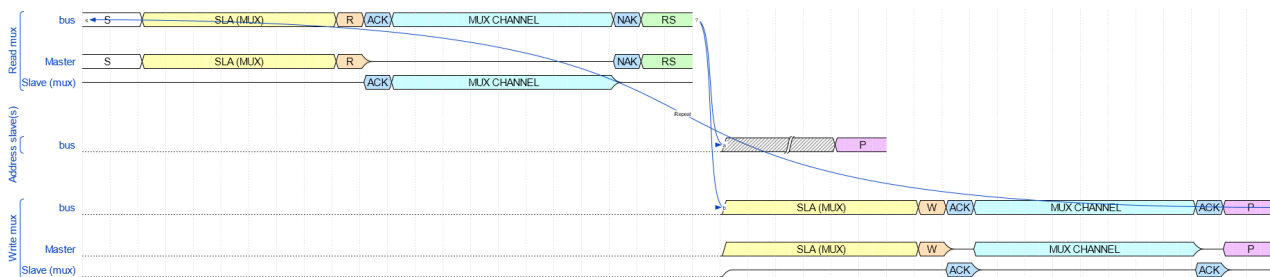

Figure 12.1.2: Genesys ZU I²C transfer format
1. A STOP condition ('P' in Figure 12.1.2) terminates the transfer and any new transfer must respect the format on its own.
2. All transfers to any slave end device on the main I²C bus must begin with a single byte read of the multiplexer control register and a repeated START condition ('RS' in Figure 12.1.2). How the transfer continues depends on the multiplexer control register ('?' in Figure 12.1.2).
1. If the multiplexer channel where the slave end device resides is open, the transfer must continue with the slave end device address ('a' in Figure 12.1.2). At this point any number of slave devices can be addressed by the use of repeated START(s). When done, a STOP condition must be sent.
2. If, however, the desired channel is not open, the transfer must continue with the multiplexer device address, single byte write with the desired channel bit set and a STOP condition ('b' in Figure 12.1.2).
4. Observation: when writing the multiplexer, a STOP condition must be sent for the channel setting to take effect ('c' in Figure 12.1.2). Consequently, a new transfer must begin with another multiplexer read.